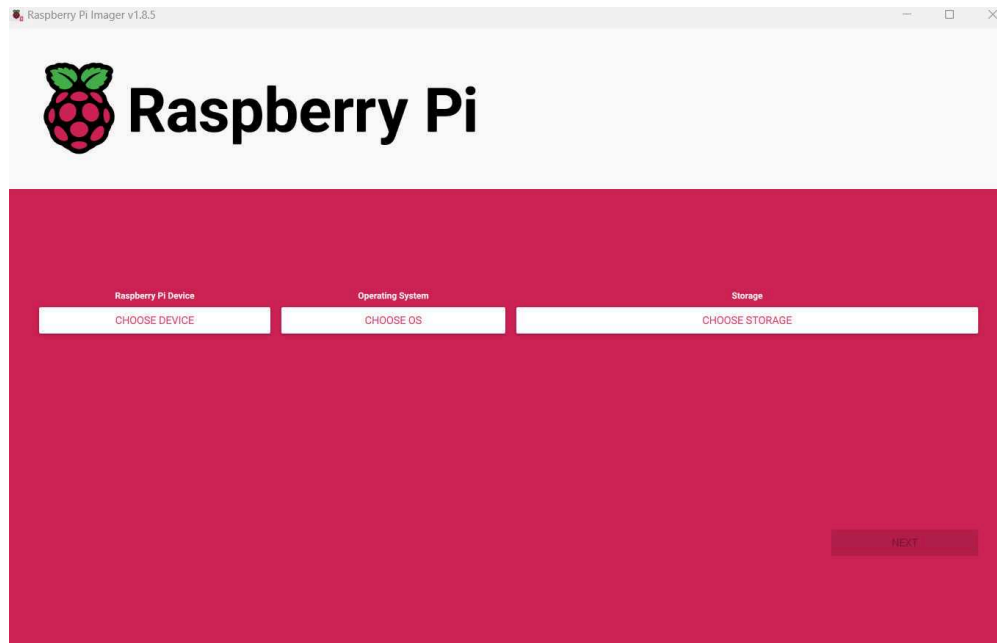

Figure 2: Raspberry Pi Imager interface
1. Start Raspberry Pi Imager (Fig.2)